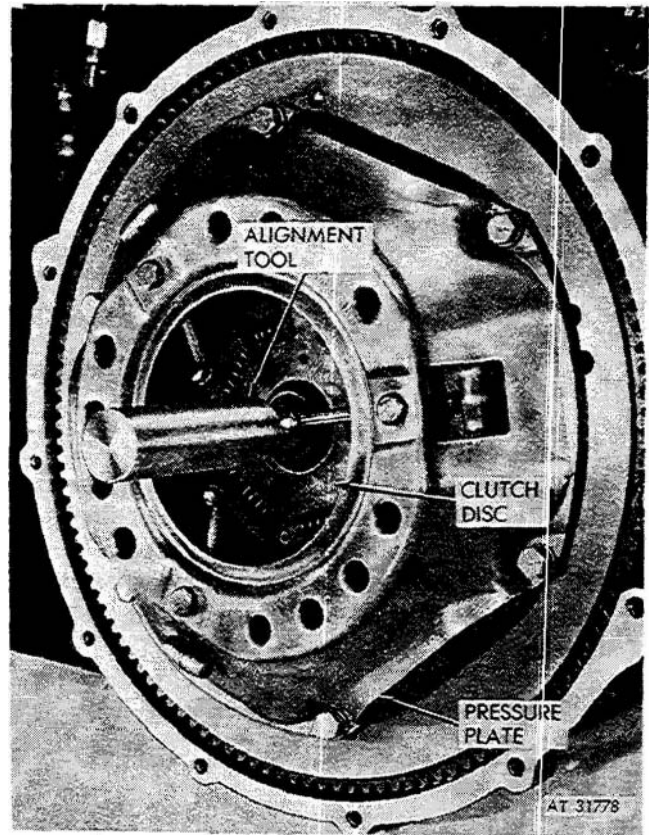

Figure 2-8. *Clutch disc alignment.*
(2) Position clutch disc (2, fig 2-4) with side marked "TRANS" away from the flywheel. Install a suitable clutch alignment tool through center of clutch disc into pilot bearing (1) as shown in figure 2-8.